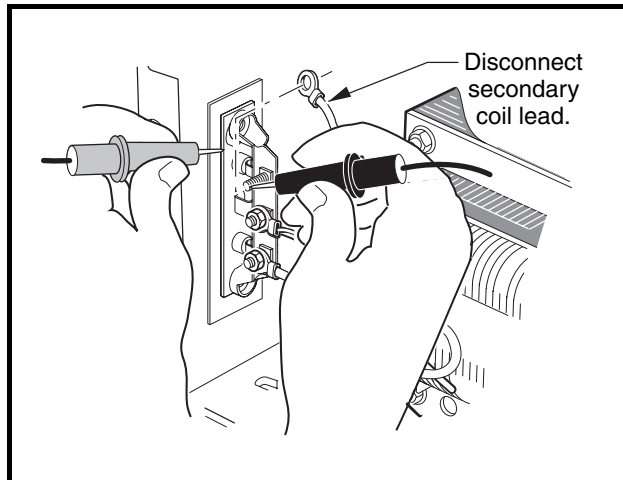

Figure 3-21 Diode Test
3. Disconnect one transformer secondary coil wire from the diode terminal (**Figure 3-21, Page 3-23**).
4. Using a low voltage continuity tester or multimeter set to the diode test function, connect the red (+) test probe to the diode mounting plate and the black (–) test probe to a diode terminal and note the reading (**Figure 3-21, Page 3-23**).